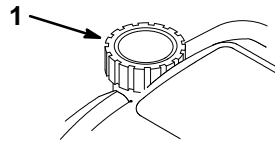

Figure 9
2. Clean around the fuel tank cap and remove the cap from the tank (Fig. 9).